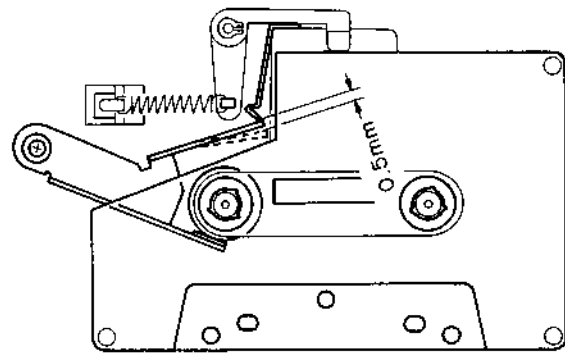
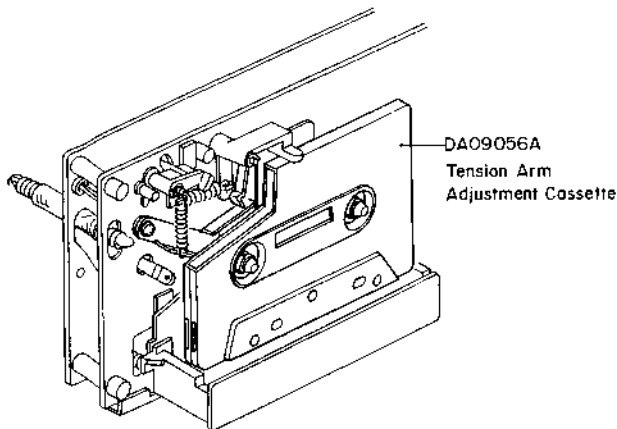

Fig. 4.14
Fig. 4.13
Refer to Figs. 4.13 – 4.16.
- (1) Load a Tension Arm Adjustment Cassette (DA-09056A) in the N-582Z referring to Fig. 4.13.
- (2) Set the N-582Z in Play mode.
- (3) Bend the Back Tension Arm with pliers so that the gap between the Cassette Holding Spring assembled on the Head Base Ass'y and the Back Tension Arm becomes 0.5 mm as shown in Fig. 4.14. Do not bend the top of the Back Tension Arm.
- (4) Set the N-582Z in Stop mode, and remove the Tension Arm Adjustment Cassette (DA09056A), then set the N-582Z in Cue mode.